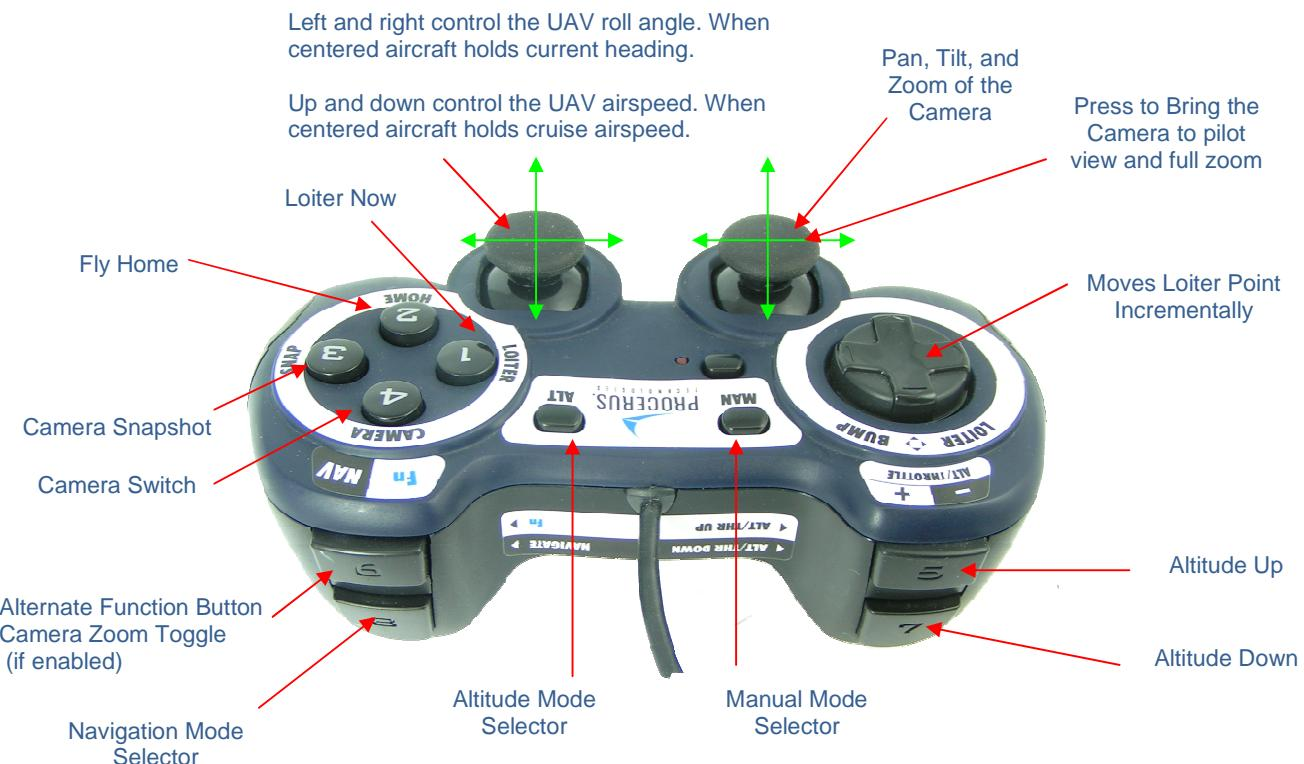

Figure 4-2 Altitude Mode Front View
Figure 4-2 and Error! Reference source not found. show the gamepad controls during Altitude Mode operation.
3. Figure 4-2).